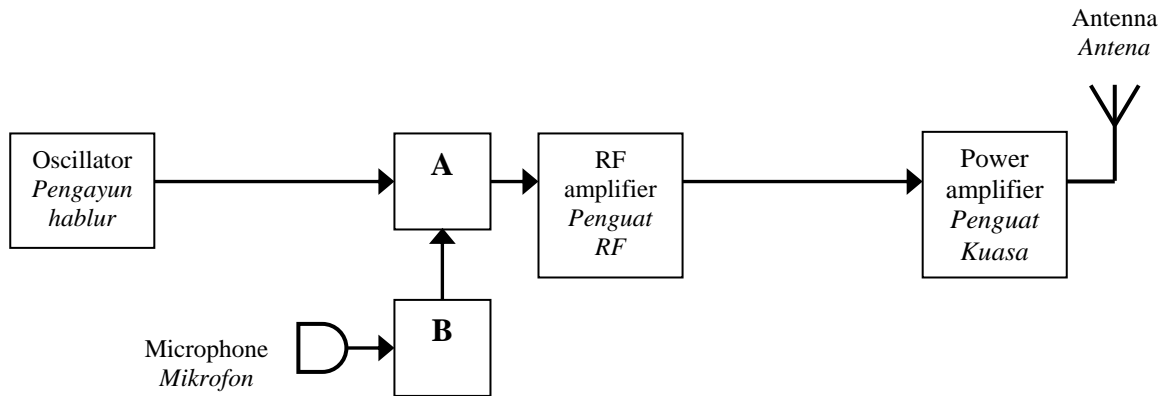

Figure 2
2. Figure 2 shows the radio transmitter block diagram.
Based on Figure 2,